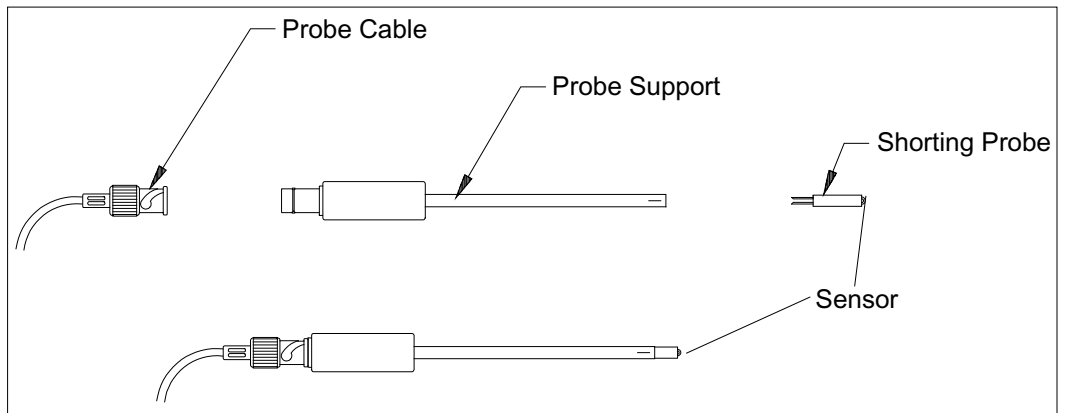

Figure D-2
- ☐ If you have a probe with a probe support, install a shorting probe as shown in Figure D-2